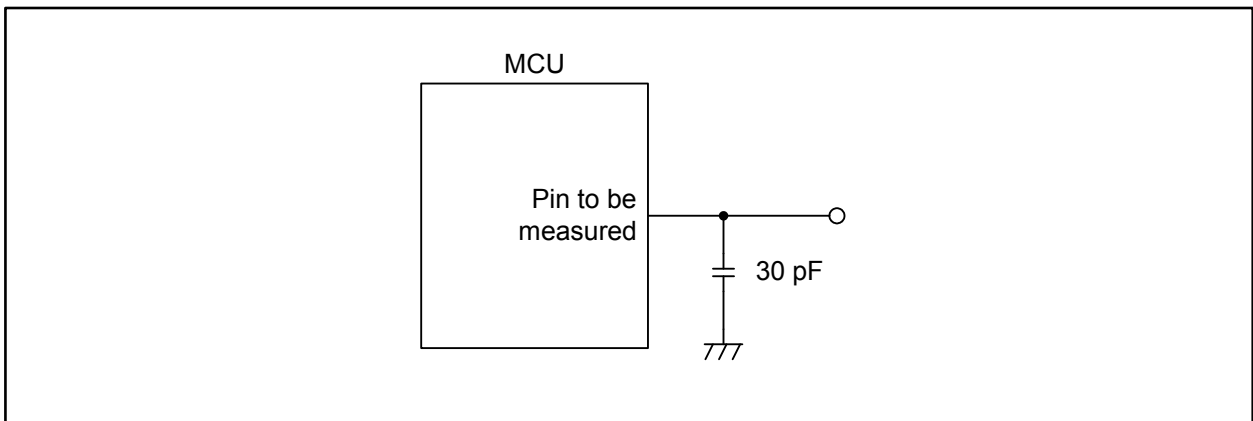

Figure 5.6 Switching Characteristic Measurement Circuit
| $t_{su(S-R)}$ | Chip-select setup time before read | Refer to Figure 5.6 | (1) | | ns |
| $t_{su(S-ALE)}$ | Chip-select setup time before ALE | Refer to Figure 5.6 | (1) | | ns |
| $t_{d(C-Q)}$ | TXDi output delay time | Refer to Figure 5.6 | | 80 | ns |
| $t_{d(ISCLK2-TXD)}$ | ISTXD2 output delay time | Refer to Figure 5.6 | | 180 | ns |